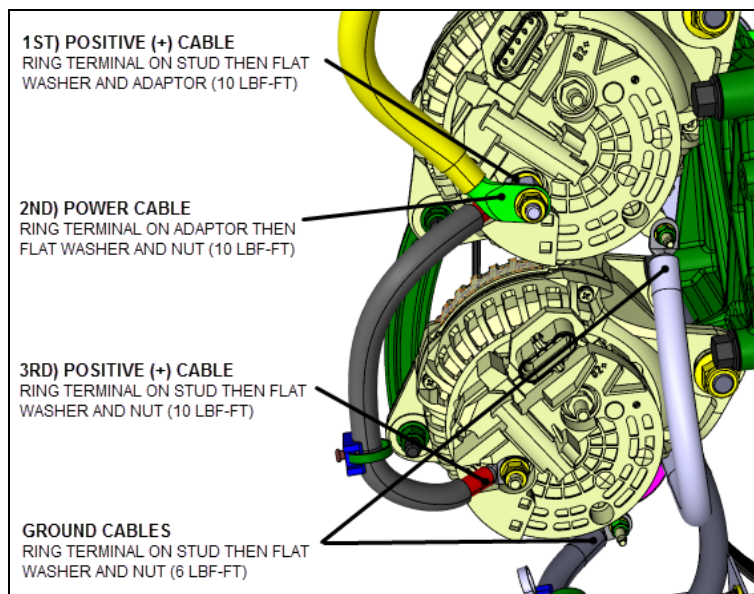

FIGURE 26
14. Cable connection overview. Upper and lower alternator (FIGURE 26).